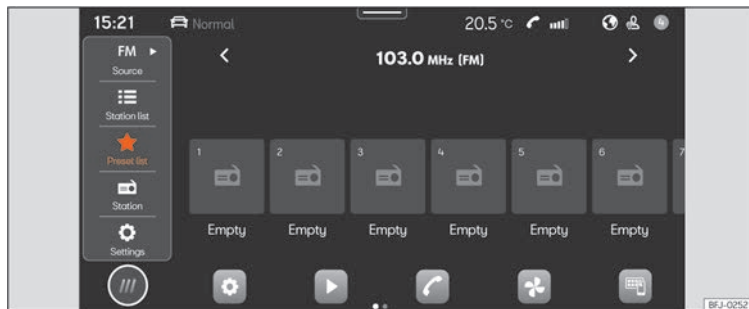

Fig. 132 Schematic diagram: Radio view.
- Press **HOME** > >>> Fig. 132.